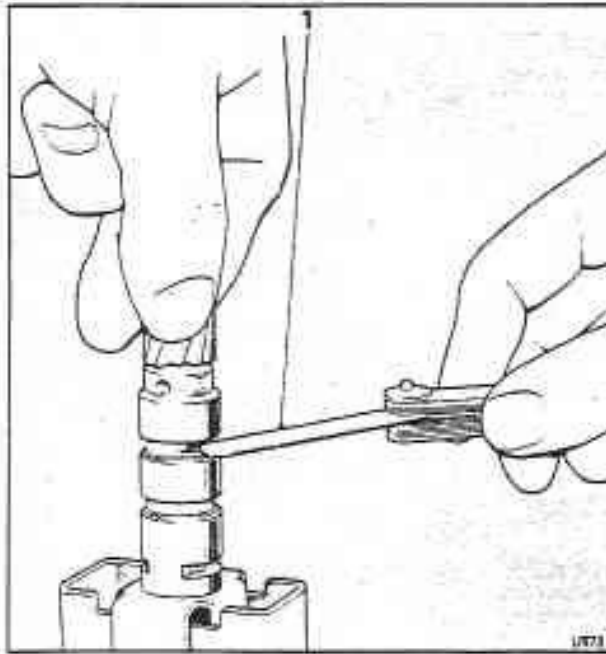

Fig. T9-5 Check valve opening (inlet)
9. Hold the governor as shown in figures T9-5 and T9-6. Then, check that there is a minimum of 0,51 mm (0.020 in) at the inlet and exhaust openings.